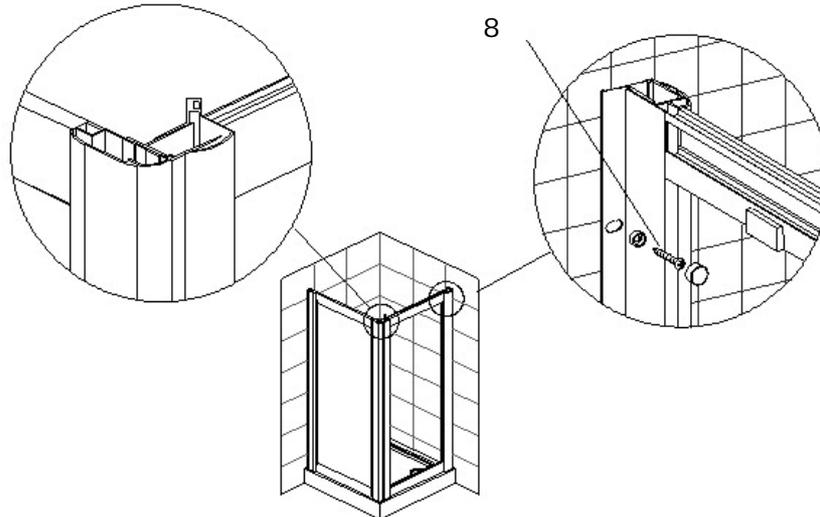

Figure 8
8. Join the fixed profile (17) in the connection profile (19), do not fix with screws yet, and use the rubber washers and ST4x30 screws to fix the pivot door wall profile (6) to the wall. Press the screw caps over the screws, as shown in figure 8.